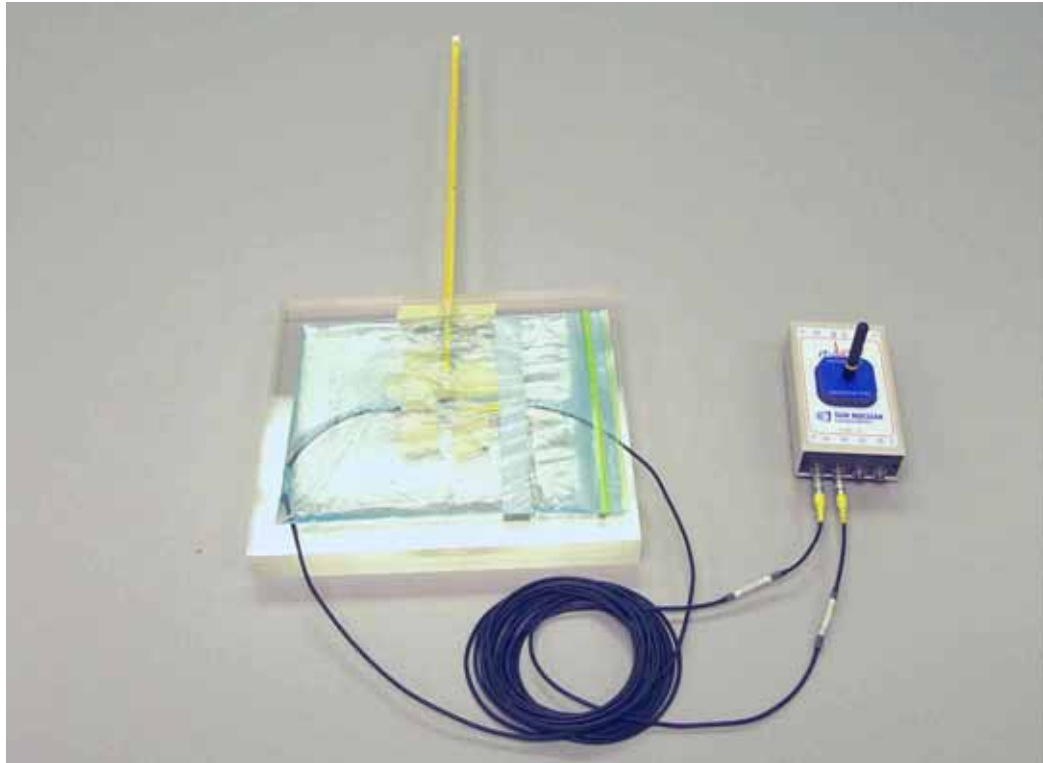

Figure 4-23. Place water bag over diodes prior to exposure
- 1 Position the diodes on a room-temperature phantom, in the same manner as used for dose calibration. The phantom is required as a thermal mass during the test. See Figure 4-23 for diode spacing.